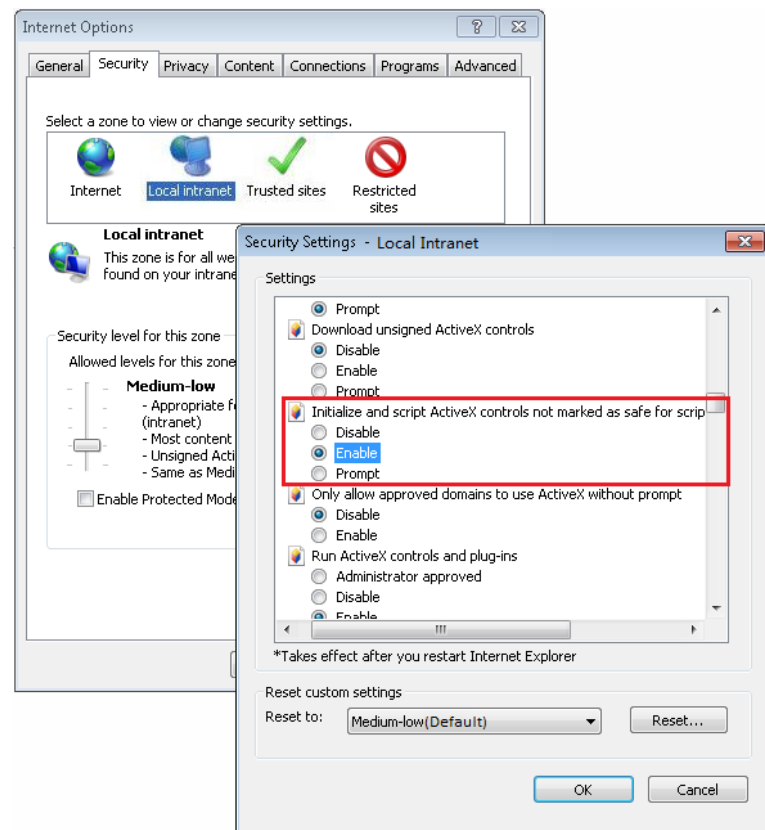

Figure 3-7 Enabling ActiveX controls
5. In the window shown in Figure 3-7, set **Enable** for **Initialize and script ActiveX controls not marked as safe for scripting**.